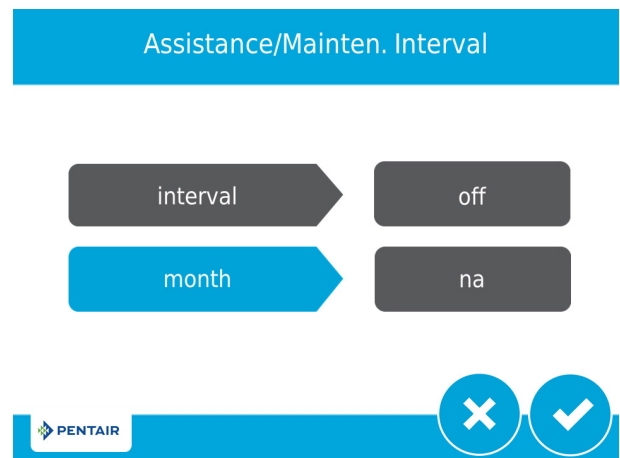

Figure 7: Assistance/Mainten. Interval Screen
4. After pressing , the Assistance/Mainten. Interval screen (Figure 7) is displayed.